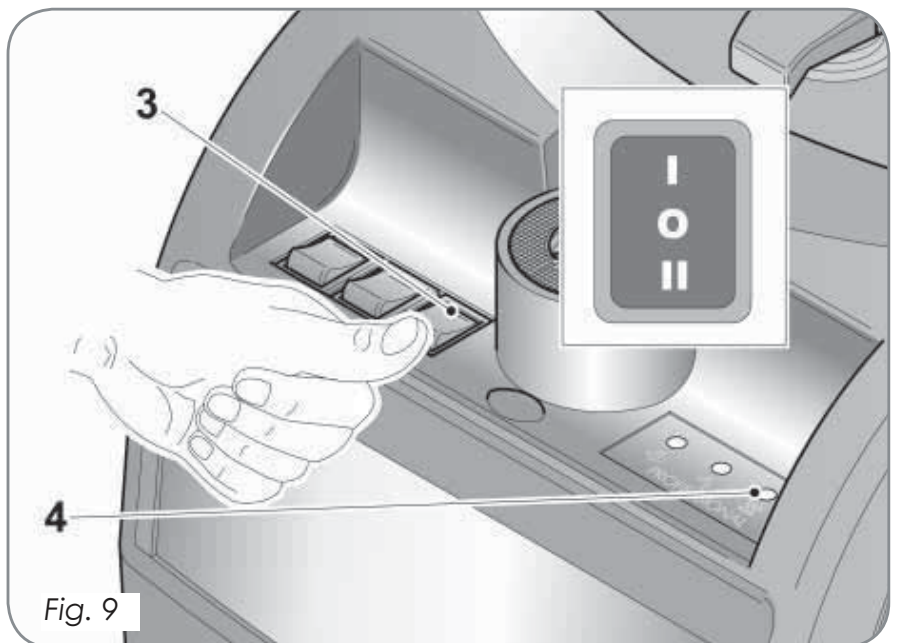

Fig. 9
Press the water delivery button (pos. 3 fig. 9); select the speed of water delivery. The yellow indicator will come on (pos. 4 fig. 9)